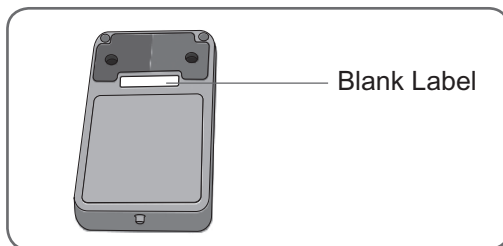

Figure 72: Label on the RF Stim Unit for the System ID Number.
4. Locate the System ID Number on the NESS L300 Plus carrying case (for example, A334). Write the number on the blank label on the back of the new RF Stim Unit. See Figure 72. This number identifies which NESS L300 Plus System the new RF Stim Unit will register to.